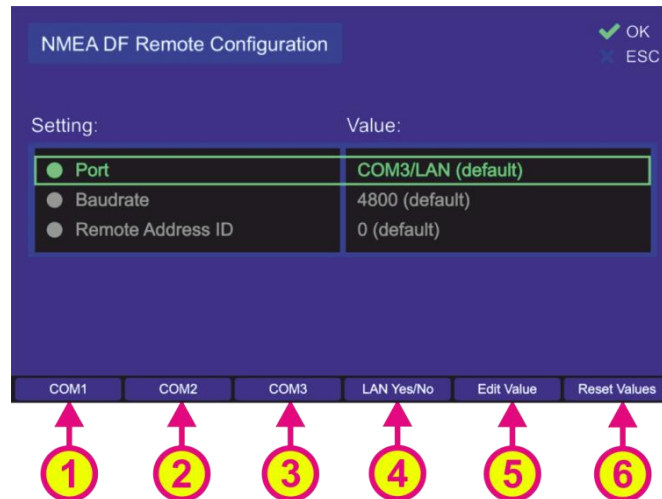
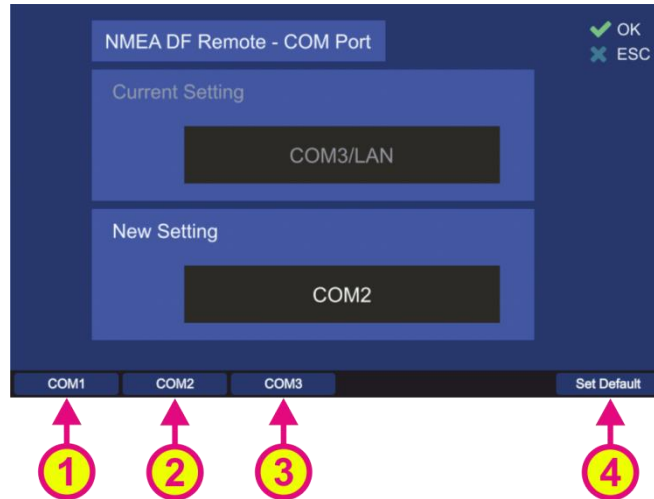

Fig. 141 NMEA DF remote control configuration
Fig. 142 Remote communication port configuration
Additionally, by choosing the combination “COM3/ LAN”, the NMEA sentences will be also sent via the LAN connection (s. Fig. 141, position 3).
Following sub-menu will appear (s. Fig. 141).
Pressing the hotkey “Reset Values” (s. Fig. 141, position 6) will set all menu items to default values.
- Pressing the hotkey “LAN Yes/No” (s. Fig. 141, position 4) will turn on the additional communication over LAN (pressing this hotkey again will turn the LAN communication off, see also 6.4.4.3).
- Pressing the hotkey “Edit Value” while “Port” is marked (s. Fig. 141), opens the following sub-dialog (s. Fig. 142).
- Selecting “COMx” (s. Fig. 142, positions 1, 2 and 3) configures the corresponding NMEA interface as the remote communication port.
This setting will only set the communication port. Additional transmitting the NMEA sentences over LAN should be set in the top level menu (s. Fig. 141, position 4).
- To change the baud rate, press the hotkey “Edit Value” while the menu item “Baudrate” is marked (s. Fig. 141). The corresponding sub-dialog will be opened (s. Fig. 143).
- To change this Setting, press the hotkey “Edit Value” while the menu item “Remote Address ID” is marked (s. Fig. 141). The corresponding sub-dialog will be opened (s. Fig. 143).